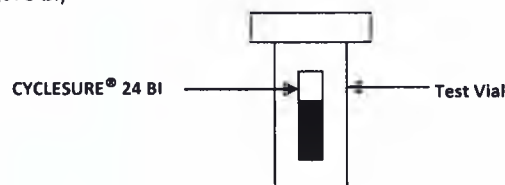

Figure 2 – CYCLESURE® 24 BI inside a test vial for STERRAD® 100NX® DUO Cycle
- a. Place one (1) CYCLESURE® 24 BI inside a Test Vial. Make sure that the CYCLESURE 24 BI Chemical Indicator disc is positioned in the open end of the Test Vial. Tighten the test vial cap firmly. (See Figure 2.)
1. Assemble the DUO Test Pack according to the assembly instructions provided in IV, DIRECTIONS FOR USE, step A4a and Figure 2.
- a. Label the unprocessed STERRAD® CYCLESURE® 24 Biological Indicator (BI) vial with a marker, writing load number and date.